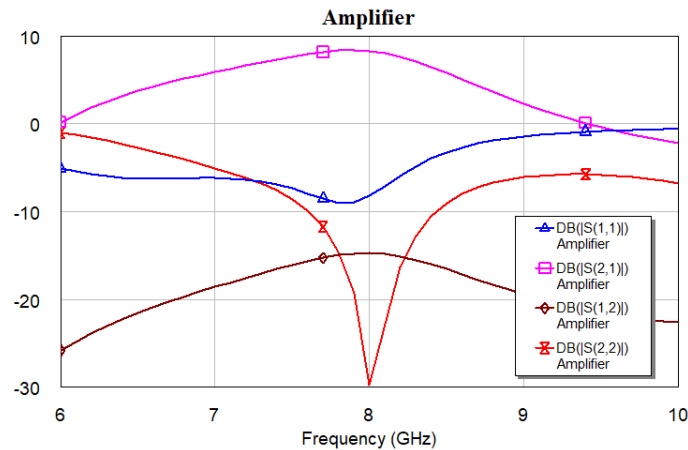

Fig. 12 S-parameters of the final LNA.
- Plot the magnitude of all S-parameters in dB into the first rectangular graph as shown in Fig. 12. Into the second rectangular graph plot noise figure NF (Linear – Noise – NF, Amplifier schematic as a source) and NFMin (Transistor schematic as a source), both in dB, as shown in Fig. 13.